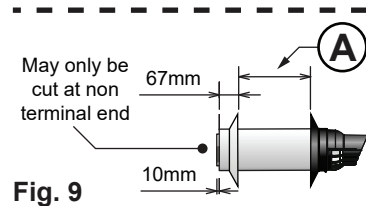

Fig. 9
5. Measure the required length for the horizontal terminal to penetrate the wall and allow an extra 67mm protrusion from the inside wall surface as shown in Fig. 9. See also the section "CUTTING THE FLUE COMPONENTS" on page 4.